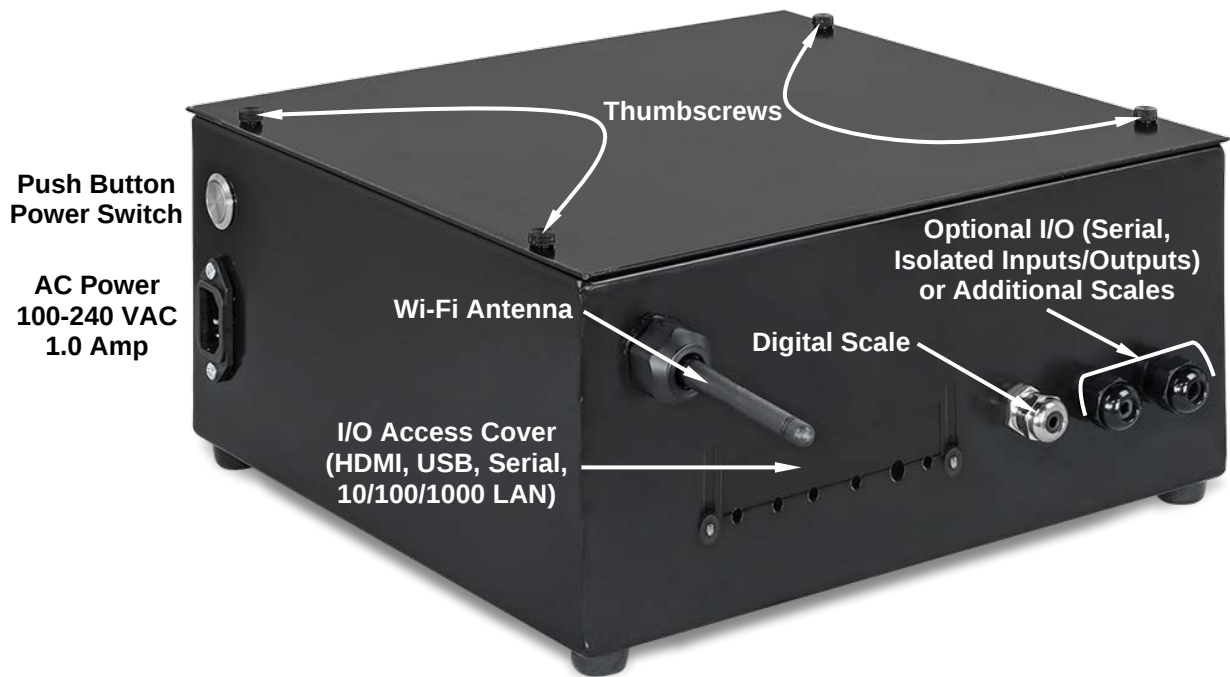

Figure No. 11
The short section of Homerun Cable from the INDICATOR terminal block in the POWER-DLC should be routed through the metallic gland connector, identified as **Digital Scale**, in Figure No. 11, 825D-NS Gland Connector Layout.
1. Referring to Figures No. 11 and 13, remove the four (4) thumbscrews securing the top plate to the base enclosure, and then remove the top plate, exposing the main PC board in the base enclosure. See Figure No. 14.